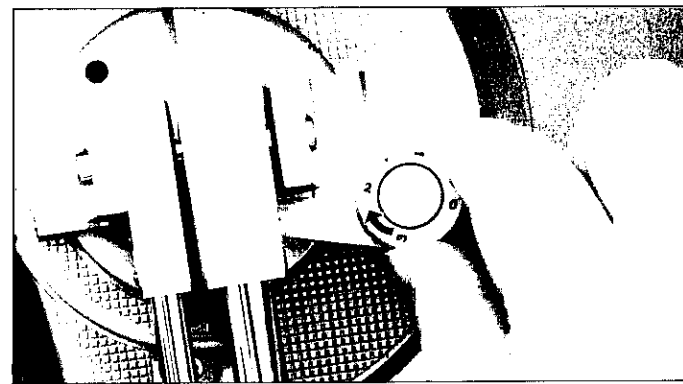

Figure 15
7. Adjust the anti-skating control to the same number as the tracking force that you have chosen in the above step 6 (See Figure 15).